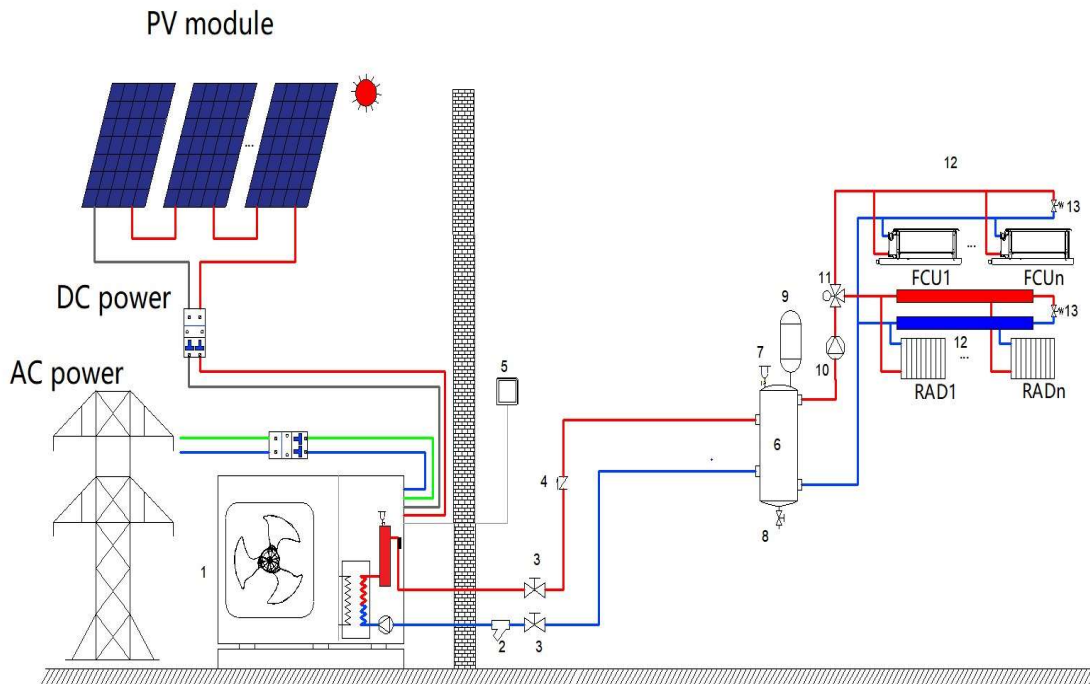

Figure 5-3
5.2.2 The mode setting control is shown in Figure 5-3 below